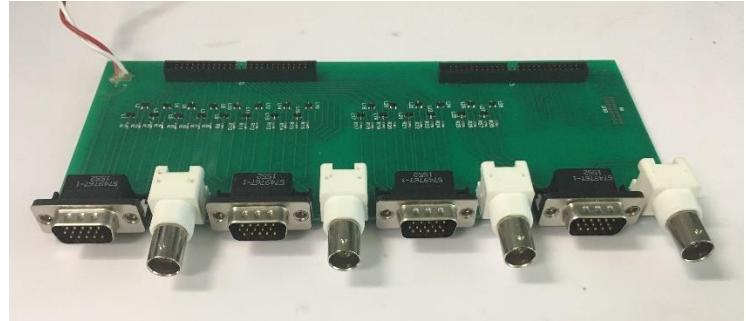

Figure 77 Completed RIO breakout board
- See Figure 77 for the completed breakout board.